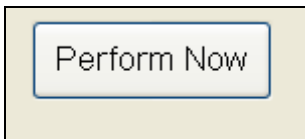

Figure 14.0.8
- Once you have entered all of the information that you want to go to the controller click on the **Perform Now** button (Figure 14.0.8).